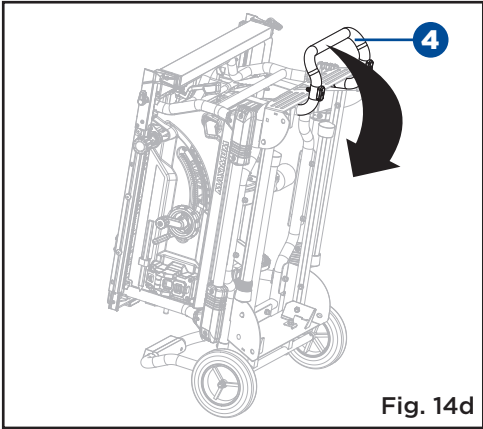
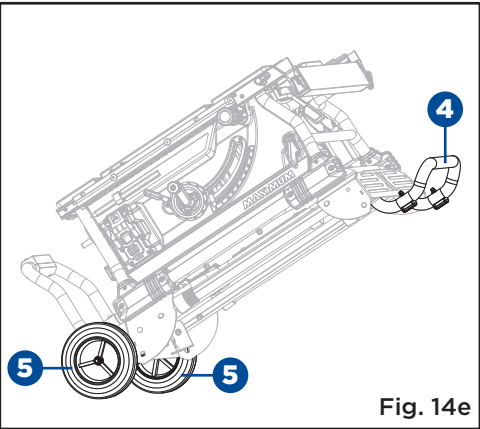

Fig. 14d
Fig. 14e
- Grasp the handle I (4) firmly and tilt saw to you. Push the saw to the desired location (Fig. 14e) then either open the stand or store the saw (Fig. 14d and 14f) in a dry environment.